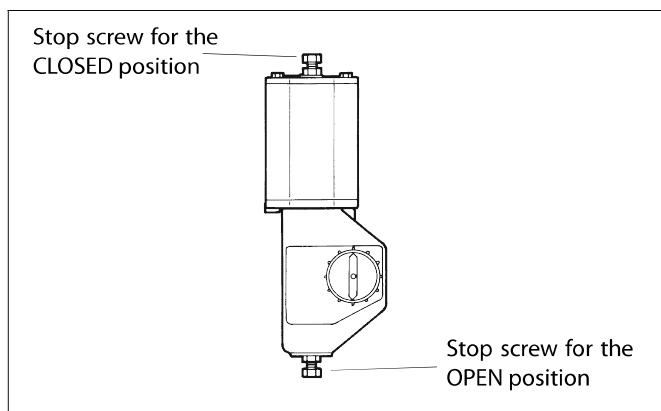

Fig. 43 Open and closed positions of a B1 actuator
- Drive the actuator piston to the extreme outward position and turn the valve into the closed position, see Fig. 43.
- Adjust the segment open and closed positions (limits to piston movement) by means of the actuator stop screws, see Fig. 43. The correct opening angle is 90°, for the R2_S valve 70°. The accurate position can be seen in the flow port. Check that the yellow arrow indicates the position of the segment.